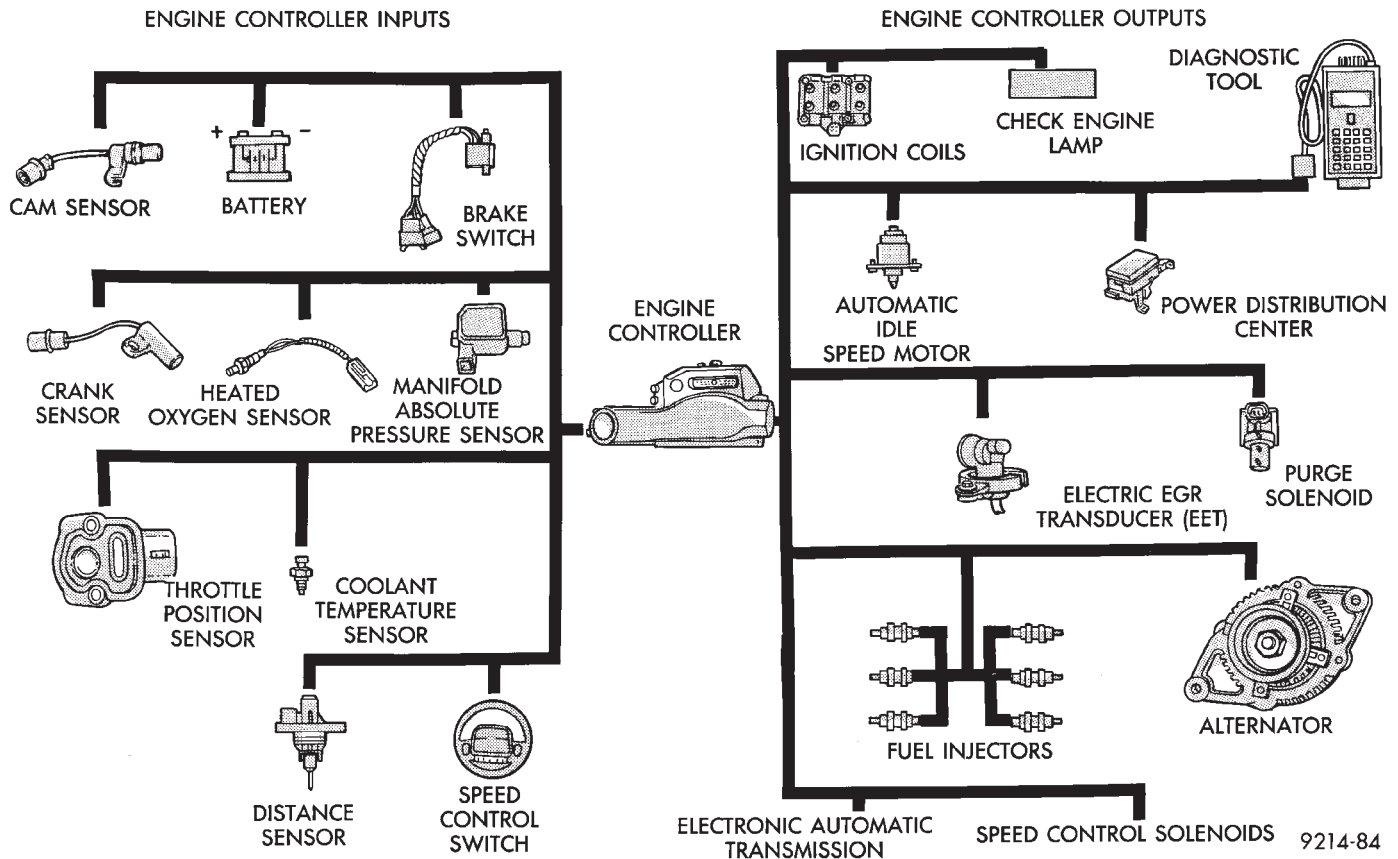

Fig. 1 Multi-Point Fuel Injection Components
3.3L and 3.8L engines use a sequential Multi-point Electronic Fuel Injection system (Fig. 1). The MPI system is computer regulated and provides precise air/fuel ratios for all driving conditions.